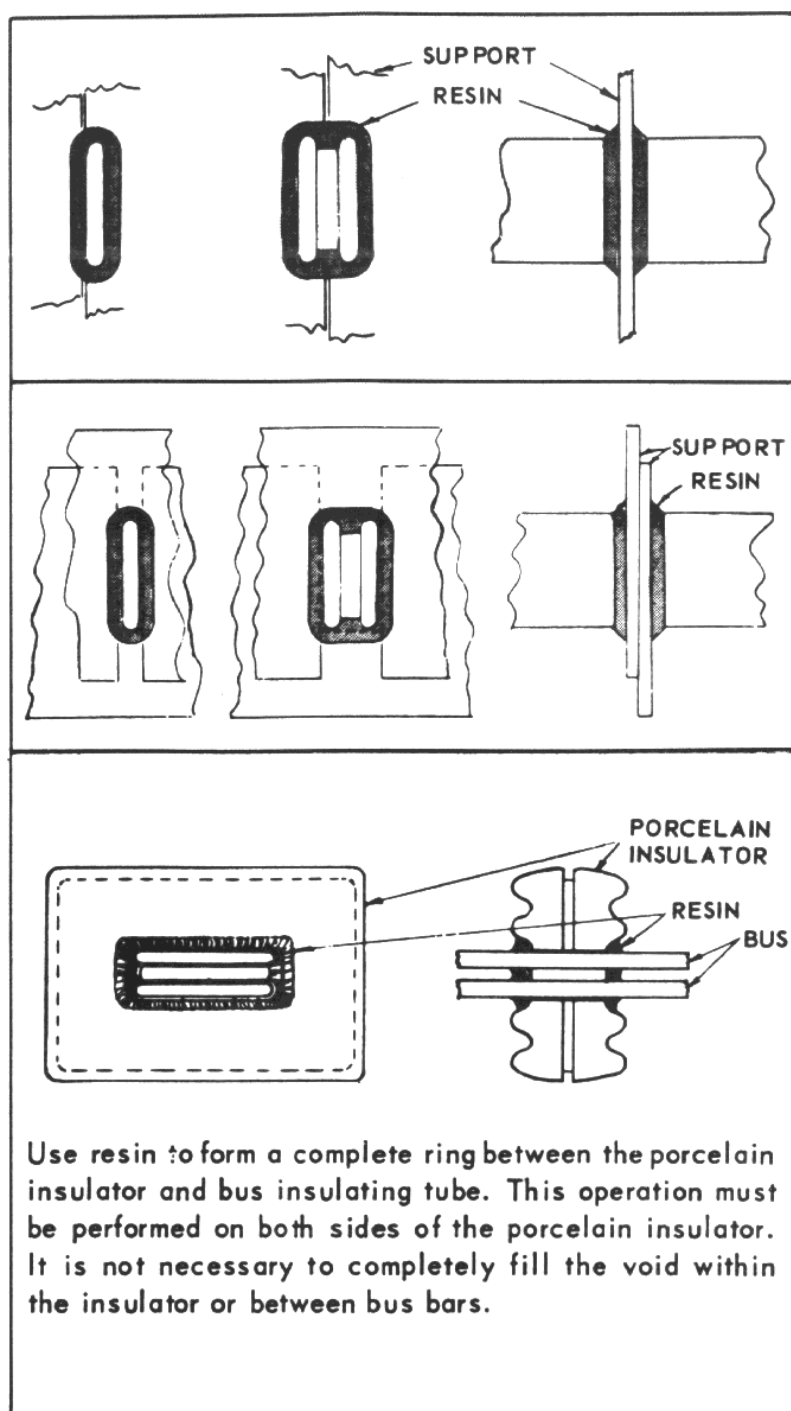

Figure 54. Caulking Bus Supports
6. Install connector caps or insulation boot as required. On 15 kv switchgear caulk all bus supports as shown in Figure 54.
2. Apply caulking material to make a continuous fillet completely around the bus bar insulation at the support (Figure 54). Make sure all air voids between insulation and support are filled. The material will cure completely in 24 hours at room temperature. Pot life is approximately 45 to 90 minutes.